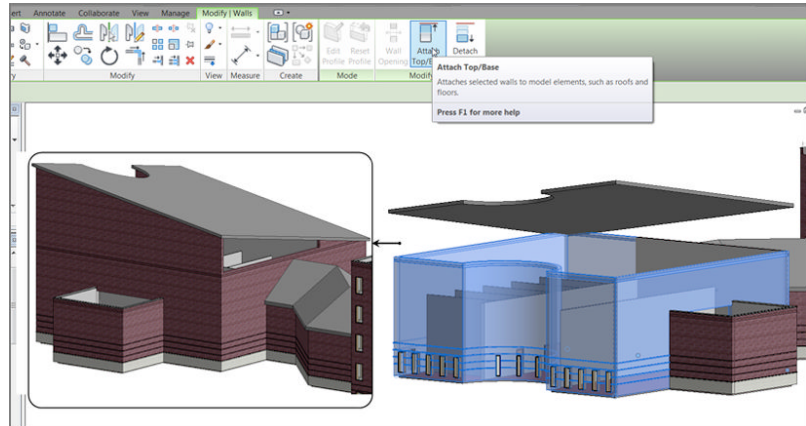

FIGURE 7.45: Attaching the tops of the walls to the sloping roof
1. In the 3D view, select all of the exterior west wing walls, excluding the one on the east side that is west of the corridor. (You can see it in Figure 7.45.)
4. Pick the sloping roof (see Figure 7.45).